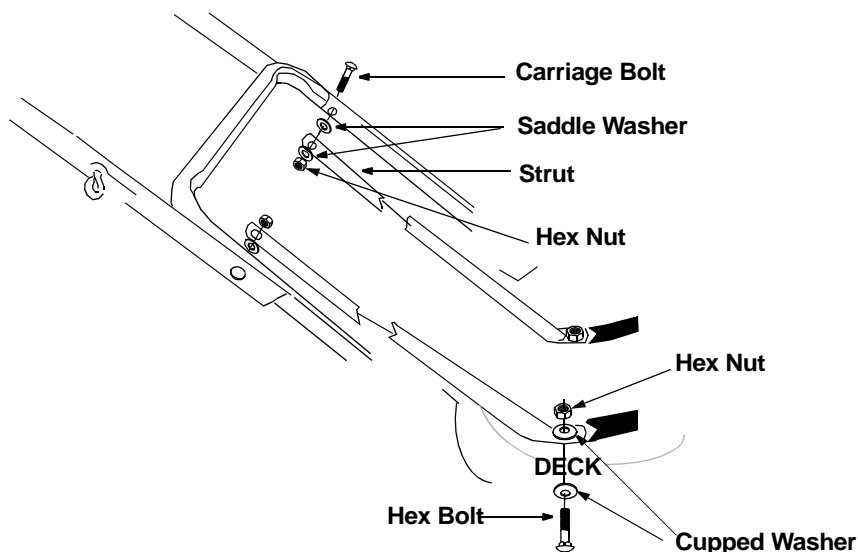

Figure 7
- Place the saddle washers over the carriage bolts on the handle aligning the curved side of the bolts against the contour of the handle. See Figure 7.
- Place struts over the carriage bolts. Secure loosely with lock washers and hex nuts. See Figure 7.
- Attach the other end of the struts as follows. Place one cupped washer over each hex bolt aligning the crowned side of the washer against the head of the bolt. Insert hex bolts up through the middle holes in deck beside the engine and then through the struts. Secure with cupped washers (cupped side against strut) and hex nuts. See Figure 7. Tighten all hardware at both ends of the strut.